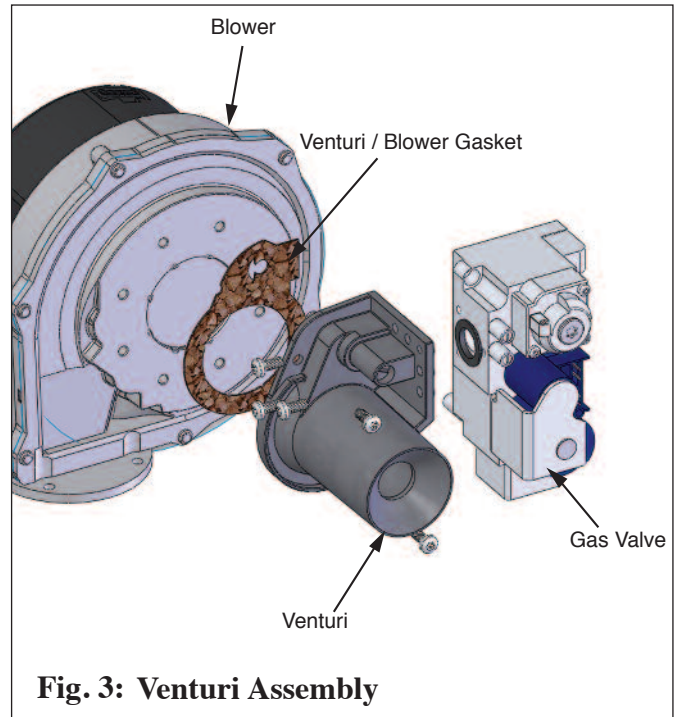

Fig. 3: Venturi Assembly
9. Remove the three screws attaching the gas valve to the venturi as shown in Fig. 3. Use Torx wrench supplied in kit to remove screws. Note orientation of the venturi to the old gas valve for reassembly of the new venturi on the gas valve.
10. Reassemble the gas valve, using the existing three Torx screws to the venturi. See Fig. 3.